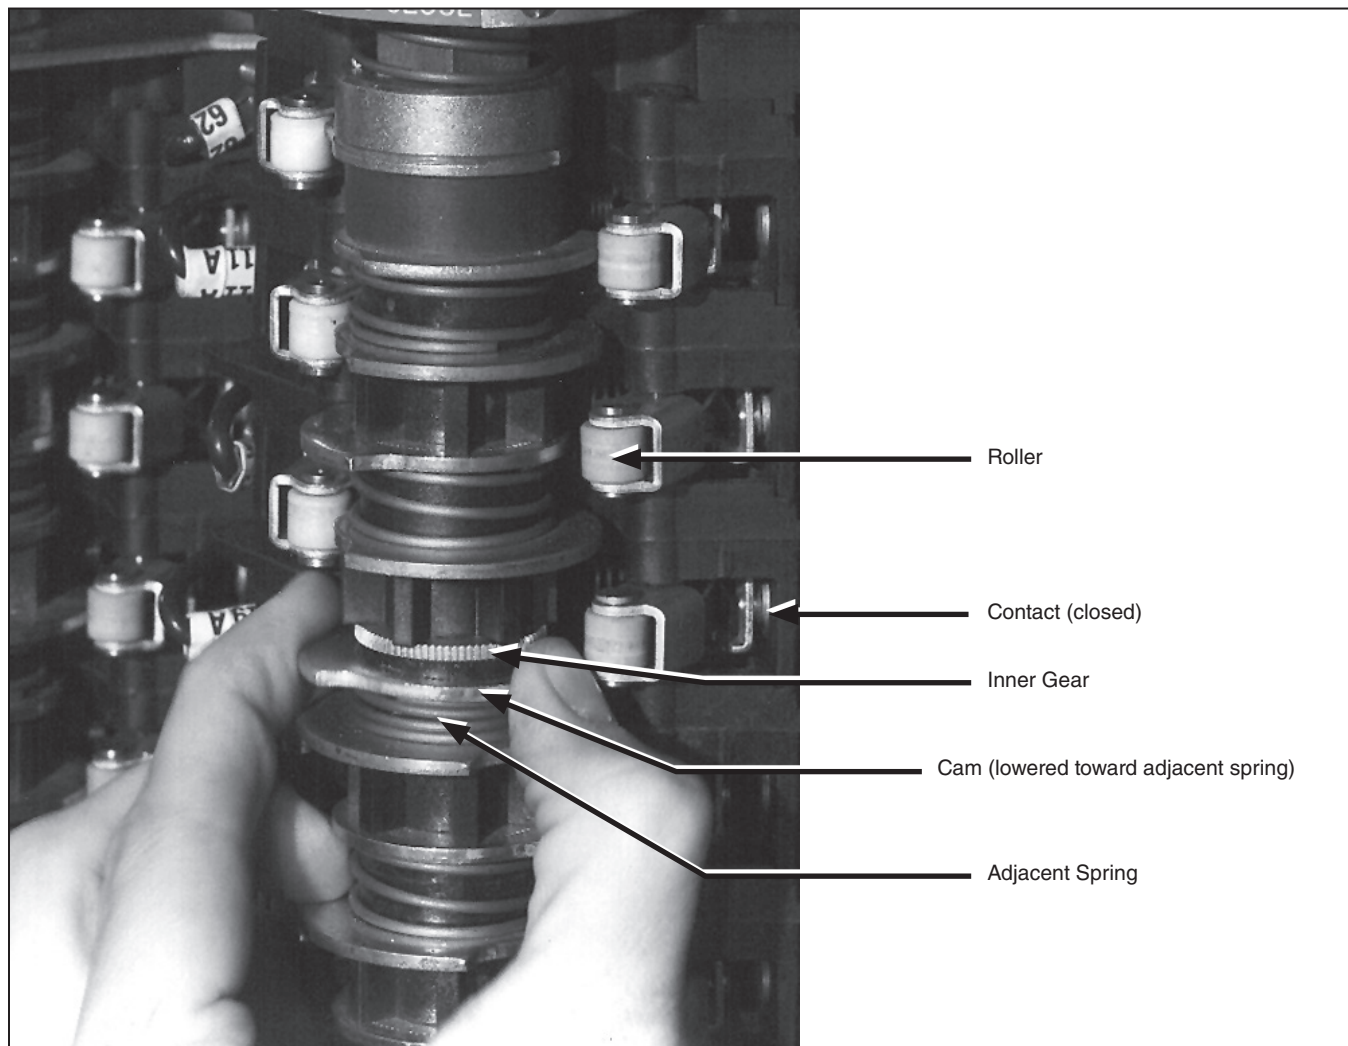

Figure 6. Adjustment of cams on auxiliary switch.
- (a) Raise (or lower) the cam toward its adjacent spring until the cam is separated from the teeth of the inner gear. See Figure 6 on page 13.